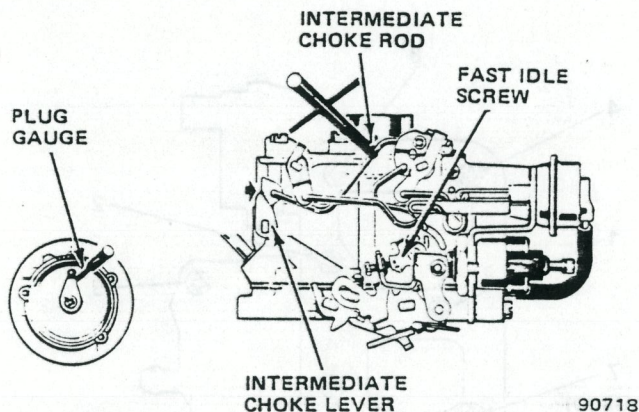

Fig. 1J-52 Model 2SE Carburetor—Choke Coil Lever Adjustment
(1) Remove rivets, retainers and choke cover and coil assembly following instructions contained in choke cover retainer kit.
(2) Position fast idle adjustment screw on highest fast idle cam step.
(3) Push on intermediate choke lever and close choke valve.
(4) Insert specified plug gauge in hole adjacent to coil lever (see Specifications). Edge of lever should barely contact plug gauge (fig. 1J-52).
(5) Bend intermediate choke rod with Adjusting Wrench J-28692 to adjust clearance between lever and plug gauge (fig. 1J-52).
The choke coil lever adjustment must be correct and the fast idle adjustment must be completed before proceeding (fig. 1J-53).